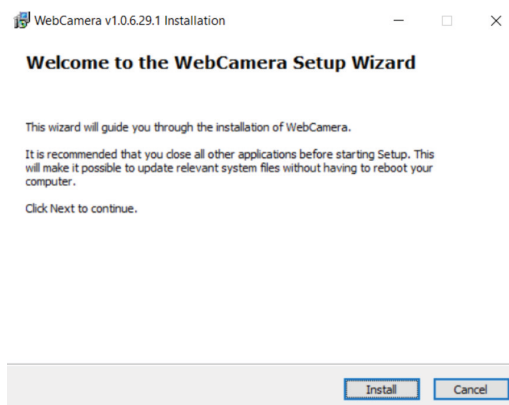

Fig.9
- close the web browser after downloading the installed and start the „WebCamera” installer Fig.9 and install the program.